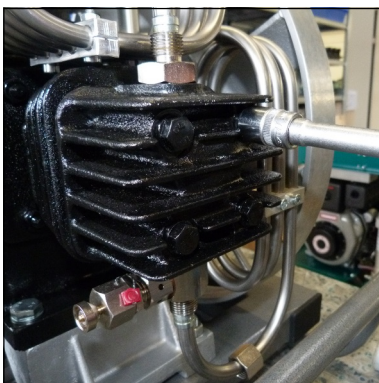

Fig. 2 - Loosen valve head screws
- Tighten valve head screws crosswise (Fig. 2).